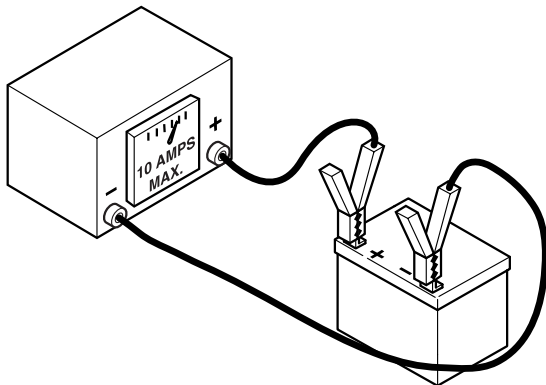

Figure 2. Charging the battery
3. To charge the battery, follow the instructions provided by the battery charger manufacturer as well as all warnings included in the safety rules section of this document. Charge the battery at 6-10 amps for 1 hour. Do not charge at a rate higher than 10 amps. See Figure 2.